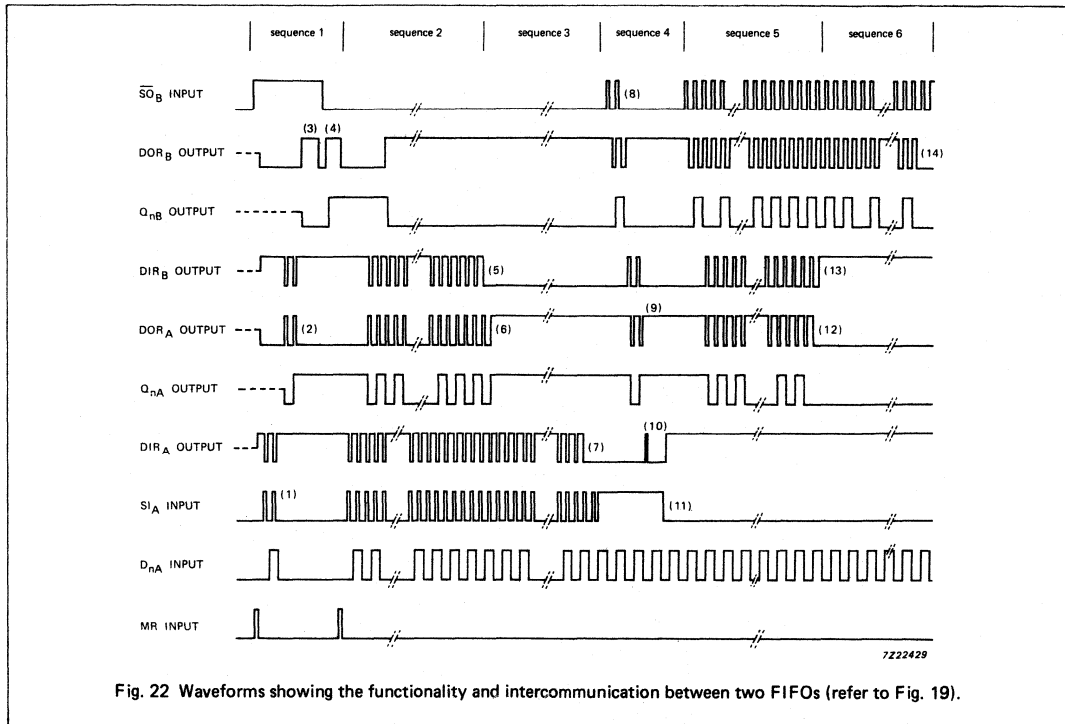

Fig. 22 Waveforms showing the functionality and intercommunication between two FIFOs (refer to Fig. 19).
Fig. 22 shows the waveforms at all external nodes of both FIFOs during a complete shift-in and shift-out sequence.
The PC74HC/HCT40105 is easily cascaded to increase word capacity without any external circuitry. In cascaded format, all necessary communications are handled by the FIFOs. Figs 17 and 19 demonstrate the intercommunication timing between FIFOA and FIFOB. Fig. 22 gives an overview of pulses and timing of two cascaded FIFOs, when shifted full and shifted empty again.
**Note to Fig. 22**